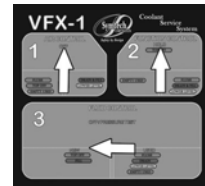

Figure 5
- 4) Turn FLUID CONTROL valve (#3) to the left, FILL (**RED**). New coolant will flow into vehicle’s cooling system until vacuum equalizes. Completion of this step is signified when new coolant flow ceases and vacuum gauge reaches “-3 ~ -5 inHg”. (Fig 5)